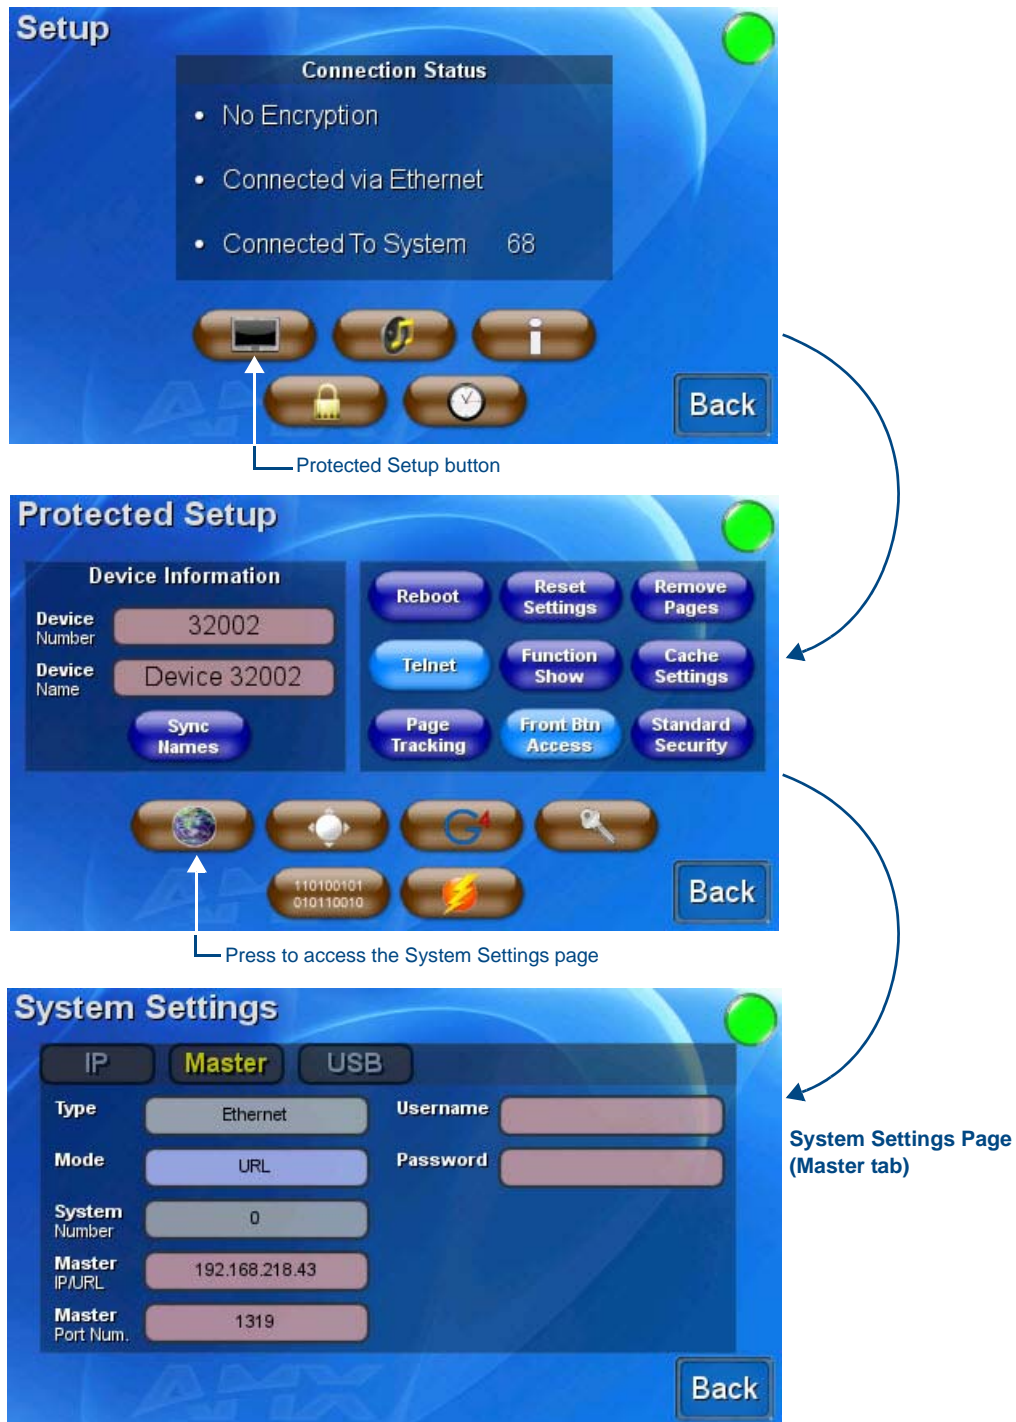

FIG. 41 Setup and Protected Setup pages
1. After the touch panel powers-up, press and hold the **Front Setup Access** button for 6 seconds to access the *Setup* page. Select **Protected Setup** and then **System Settings** to open the *System Settings* page (FIG. 41).